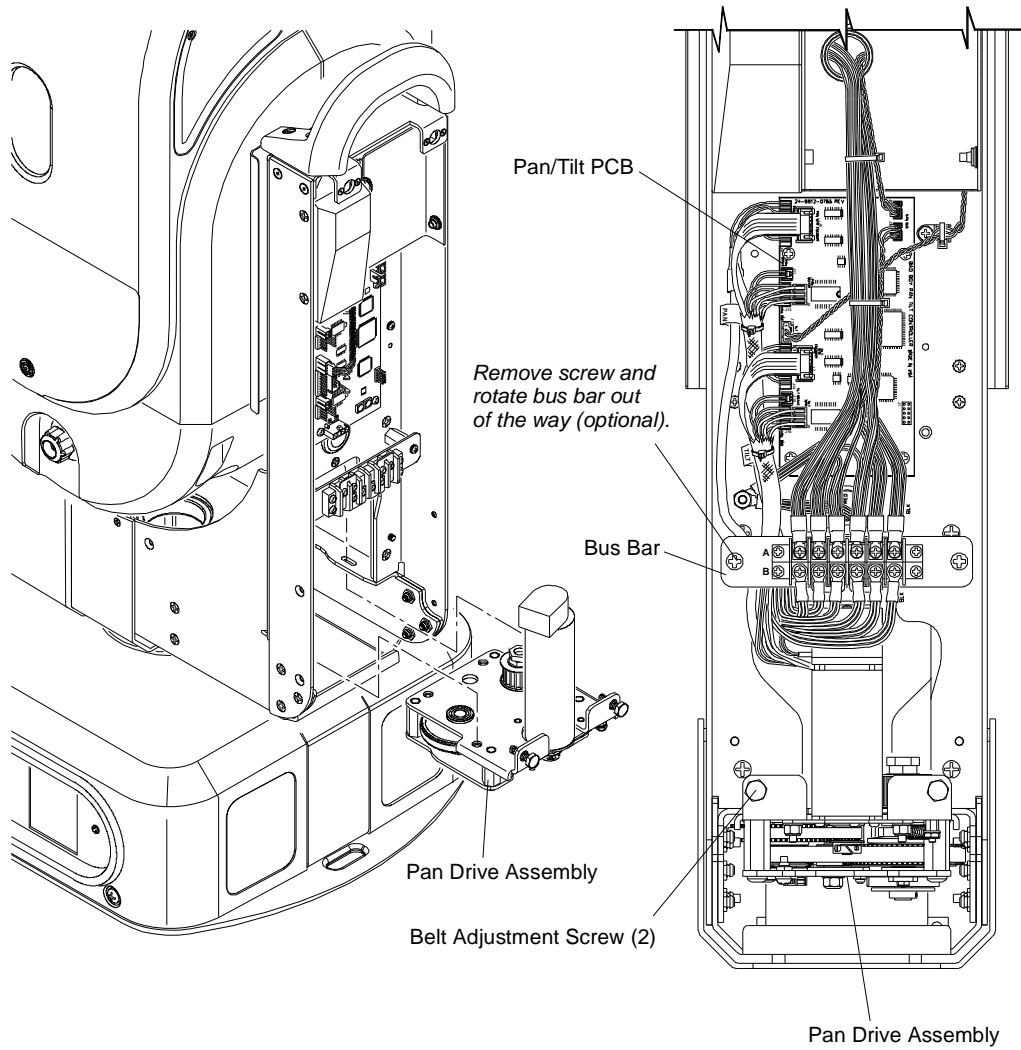

Figure 3-41: Removing Pan Drive Assembly (View 2)
- Step 9. Release belt tension by loosening two belt adjustment screws and slip belt off of pan pulley (**Figure 3-41**).